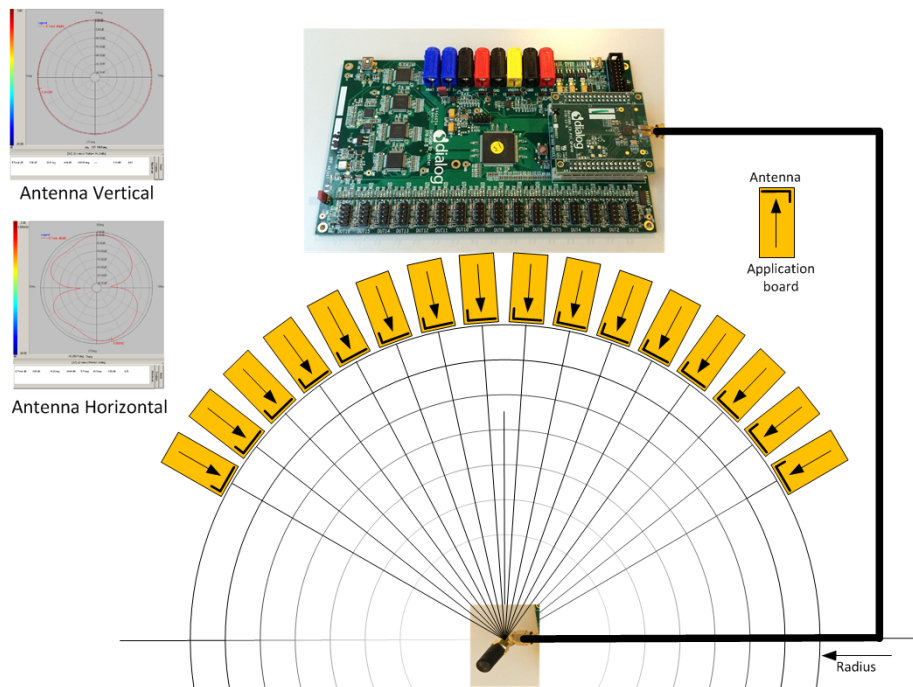

Figure 161: Possible Solution of Antenna on Cable and Fixed Radius of DUTs to Antenna
- A vertical GU antenna has different characteristics from a horizontal one. See Figure 161.